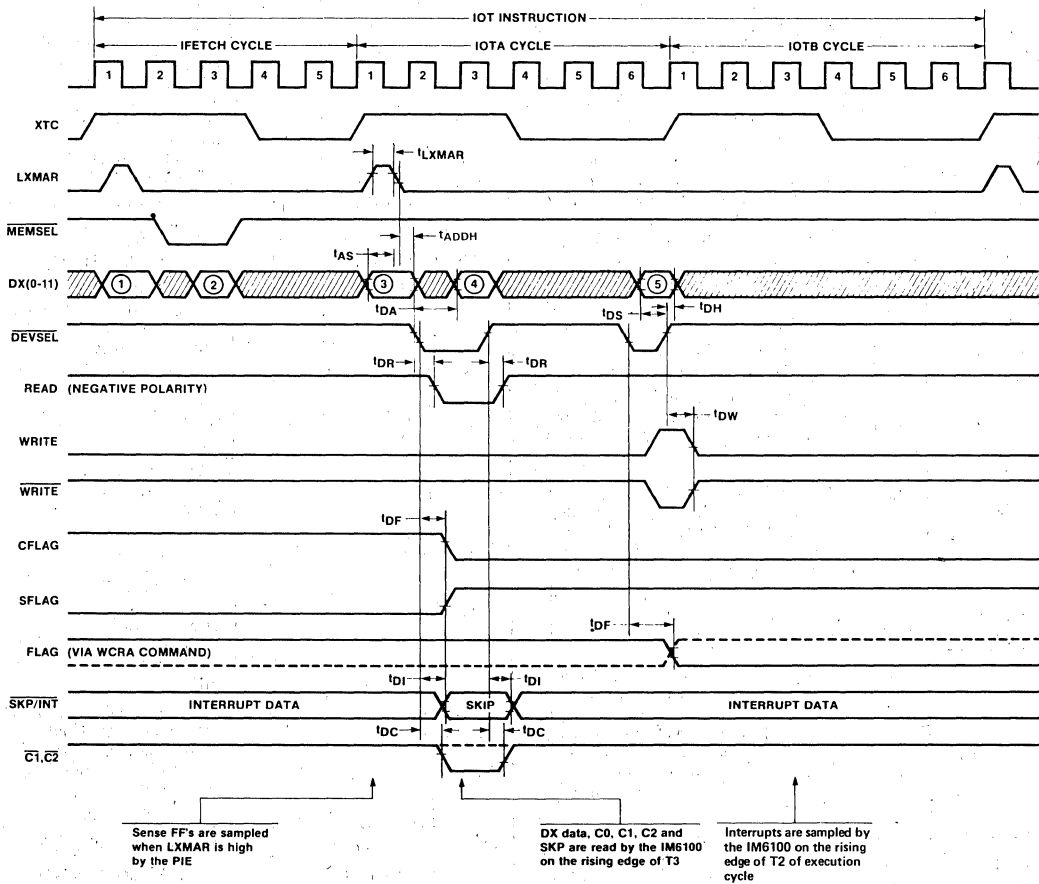

FIGURE 2. IM6101 PIE Timing Diagram.
Timing for a typical IOT transfer is shown in Figure 2. During the IFETCH cycle, the processor obtains from memory an IOT instruction of the form 6XXX. During the IOTA cycle the processor places that instruction back on the DX lines ③ and pulses LXMAR transferring address and control information for the IOT transfer to all peripheral devices. A low going pulse on DEVSEL while XTC is high ④ is used by the addressed PIE